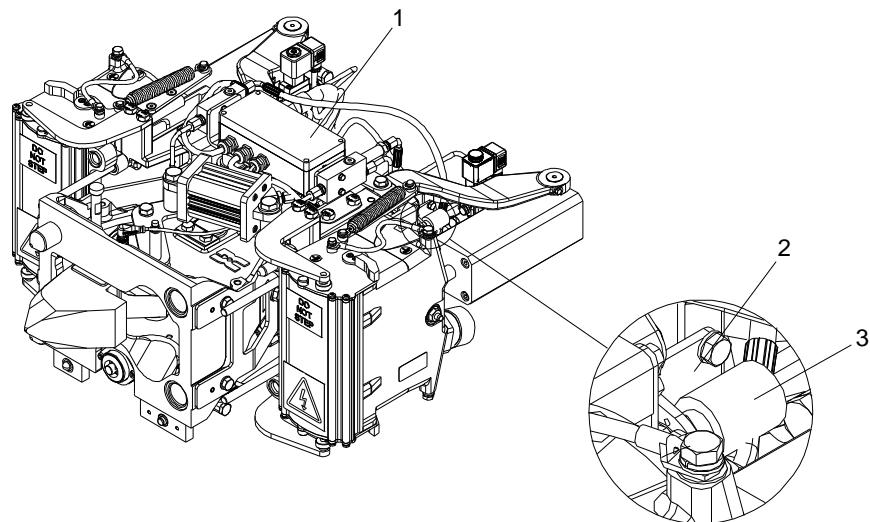

Figure 7-37: Replacement of Electrical Coupler Retracted Switch (S3.1 / S3.2)
2. Open the cover of the terminal box (1). See Figure 7-37.
3. Take notes how switch wiring is connected to the terminal block inside the terminal box (1).
5. Remove the electrical coupler retracted switch (3) from the bracket (2) by removing its front nut.
2. Fit the electrical coupler retracted switch (3) to the bracket (2) and mount its front nut. See Figure 7-37.
3. Connect the switch wiring to the terminal block inside the terminal box (1) according to previous notes and circuit diagram in Section 7.49.
4. Close the cover of the terminal box (1).